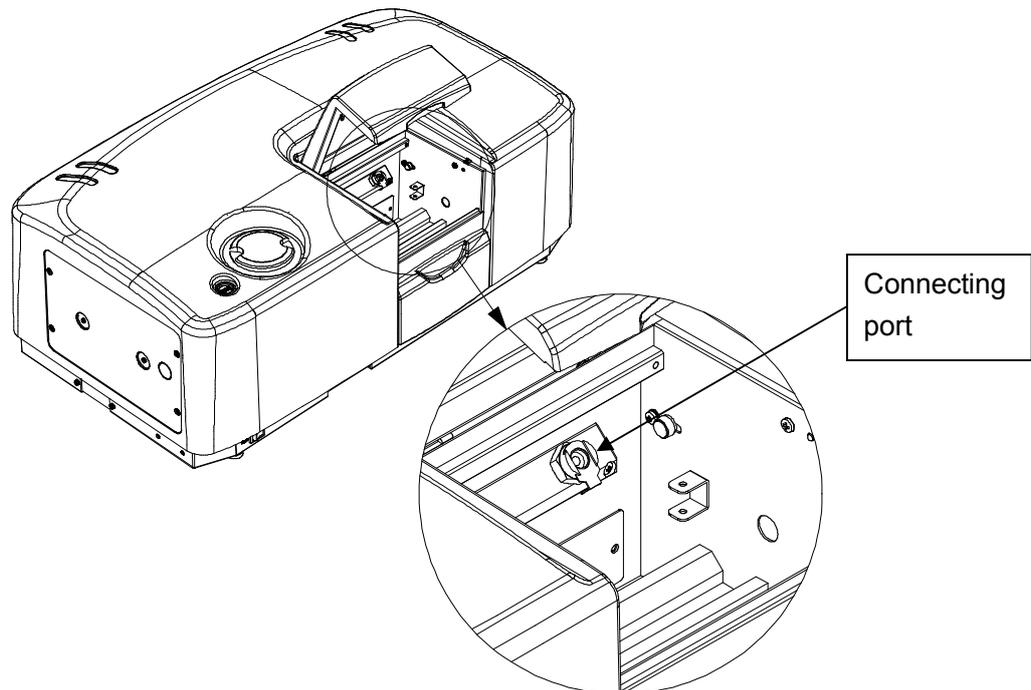

Figure 1.7 P-2000 connecting port of the tube for the water jacket cell
- (1) Connect the tube to the water jacket cell and connect the supplied joint to the opposite end of the tube, then insert it into the connector of the sample compartment of the P-2000 (Fig. 1.7).